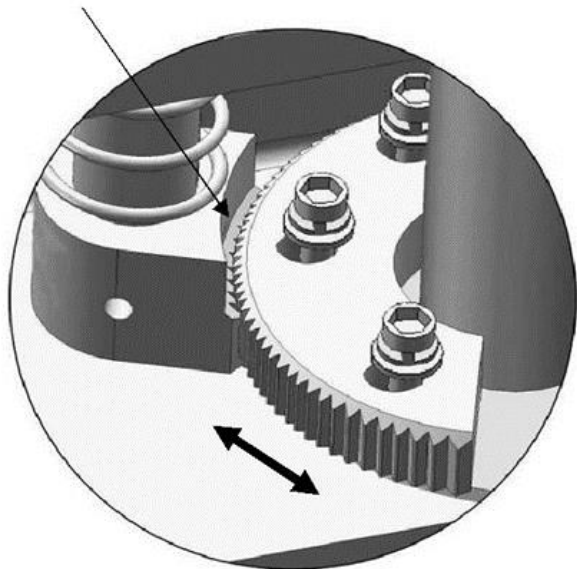

Fig. 29
3. Adjust moon gear as direction of arrow (Fig.29).